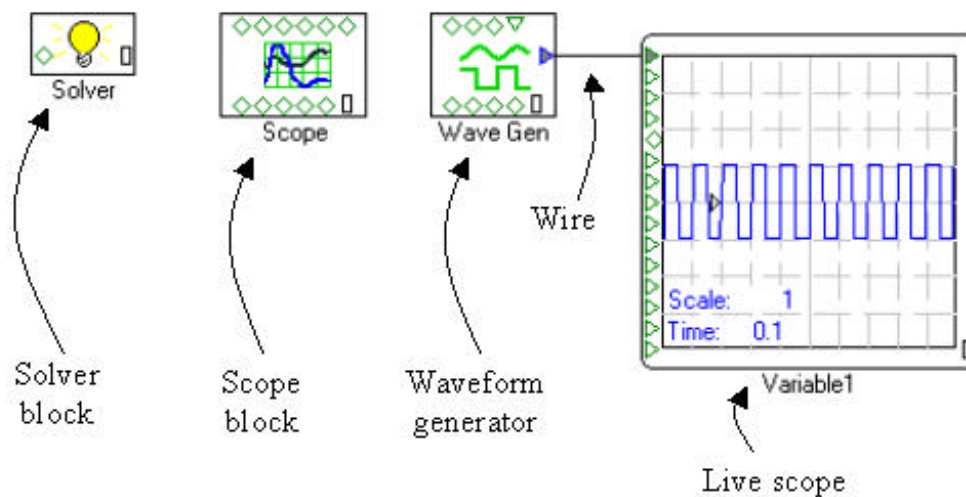

Figure 11. Detail of default model.
The default model is detailed in Figure 11. There are four blocks, two of which are connected with a wire:
- *Live Scope*: The *Live Scope* displays its output on the block diagram. *Live Scope* variables automatically display on all main scope blocks as well. Notice in Figure 11 that a short wire connects the output of the waveform generator to the input of the scope; this connection specifies that the *Live Scope* should plot the output of the waveform generator.